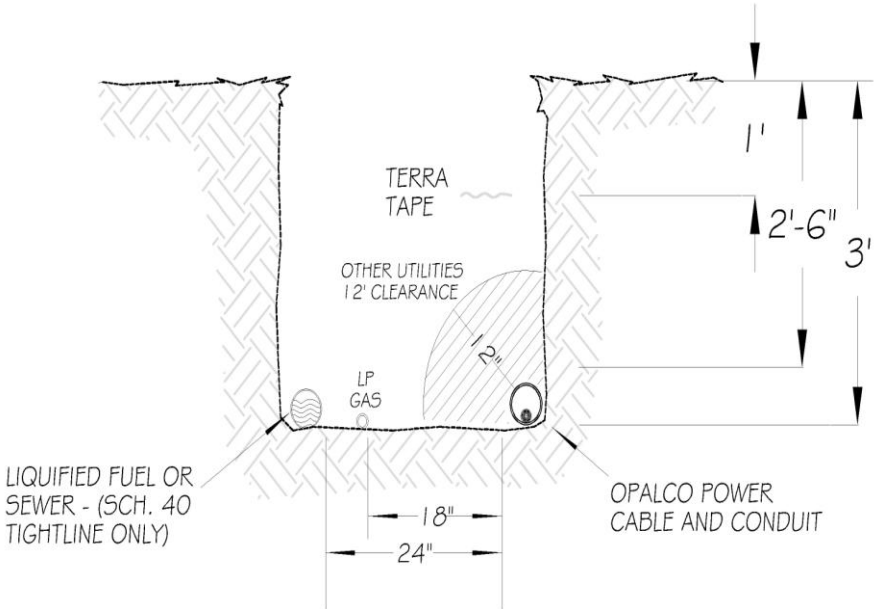

Figure 2 – Trenching/ Cabling
- If these clearance requirements cannot be met, a separate trench will be required for OPALCO underground primary lines. On all OPALCO underground primary power installations, the marking tape (terra-tape) shall be installed 18” above the power cable, or 12” below finished grade. (See Figure 2)